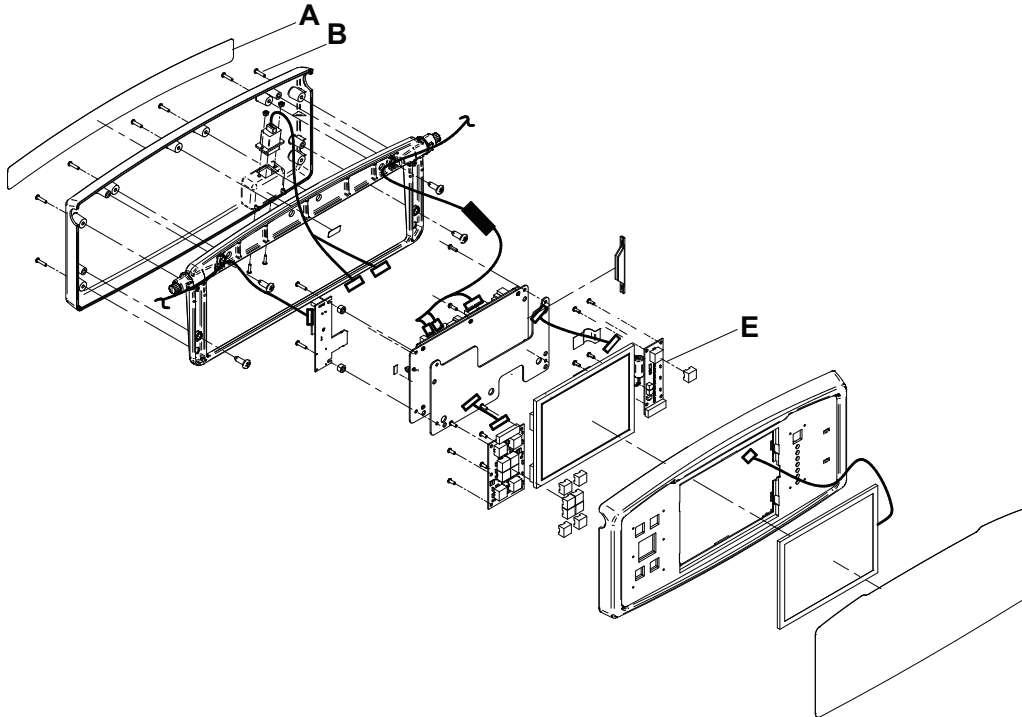

Figure 60 – Footboard assembly
3. Using a small slotted screwdriver or a utility knife, remove the fascia back foot control label (A) (Figure 60).
4. Using a #2 Phillips screwdriver, remove the six screws (B) that secure the footboard display panel to the footboard. Save the screws.
7. Using a #2 Phillips screwdriver, remove the four screws that secure the function selection/LED board (E) (Figure 60). Save the screws.